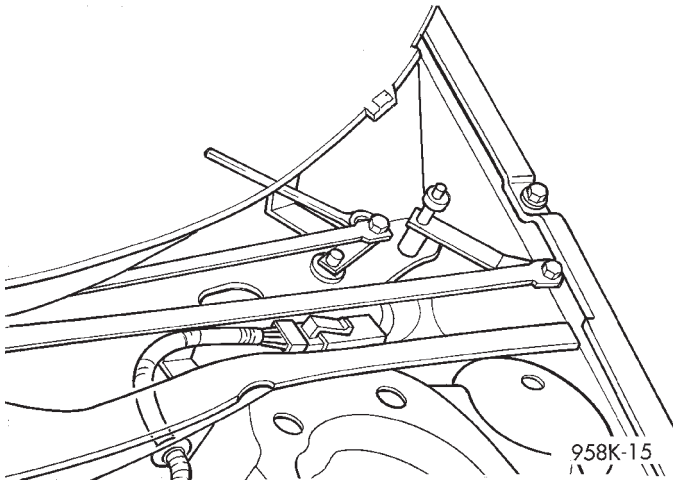

Fig. 15 Linkage Removal
- (1) Remove wiper arms and blades.
- (2) Remove the cowl screen.
- (3) Remove wiper motor assembly.
- (4) Disconnect wiper arm linkage, by using a ball joint/tie rod separator, separate the right and left ball cap from the ball (Fig. 15).
- (5) Disconnect drive link from the motor crank. Using an ball joint/tie rod separator and separate the ball cap from the ball.
- (4) Disconnect drive linkage from motor output crank. Using an ball joint/tie rod separator, separate the ball cap from the ball (Fig. 15).
- (5) Remove motor mounting nuts and remove motor.
- (6) Disconnect wire connector at motor.